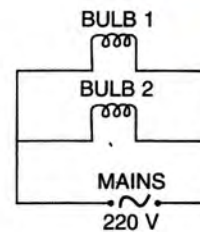

Fig. 9.11
- (iii) The arrangement of two identical bulbs in parallel with the mains is shown in Fig. 9.11. In this arrangement, voltage across each bulb will be $V = 220$ volt and then power spent in each bulb will be 60 W.